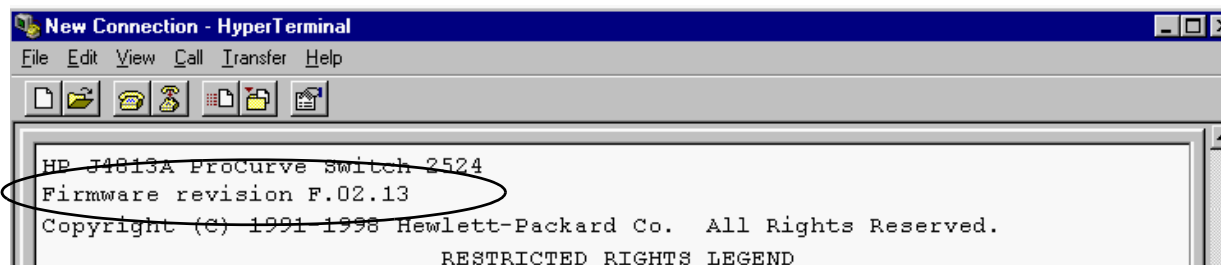

Figure 5-41 Verify Firmware
Step 17. Verify the switch firmware revision is either F.02.2 or F.02.13, displayed in the upper left corner of the welcome screen shown in Figure 5-41.